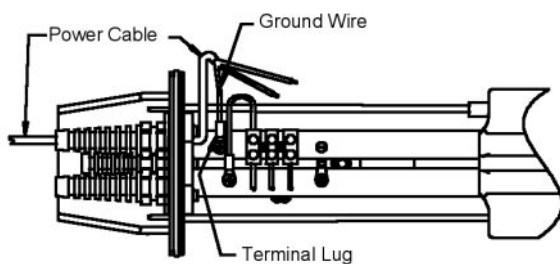

FIGURE 8 Securing the Ground Wire
3. A screw/terminal lug is provided for securing a safety ground. To attach the safety grounding wire of the power cord (green 115volt, green/yellow 230volt), first unscrew the terminal lug and strip and crimp the grounding wire into the lug. Next, reattach the terminal lug to the rail assembly using the M4 x 10 screw and lock washer provided. See FIGURE 8.